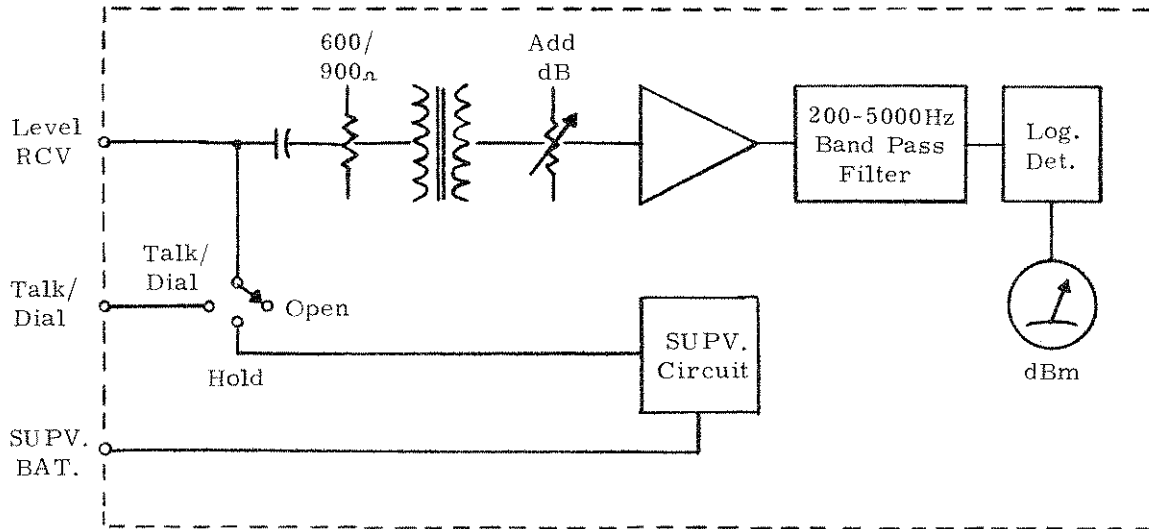
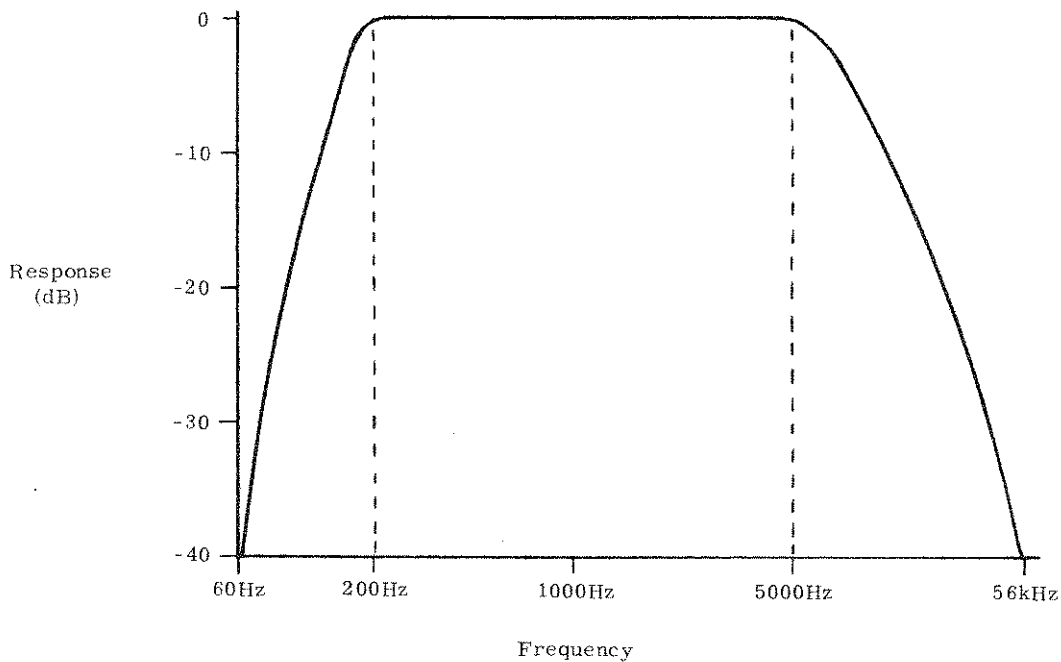

Figure 2-3. Level Measurement, Simplified Diagram
Figure 2-4. Receiver Bandpass Filter Response
2.08 For level measurements, a 0dBm, 1kHz test signal is applied to the sending end of the circuit to be checked. The receive end of the circuit is connected to the LEVEL RCV input jacks of the Model 9041. The internal circuitry of the measuring set used for level tests is shown in Figure 2-3. The bandpass filter prevents noise and extraneous signals from affecting level and return loss readings. As shown in Figure 2-4,